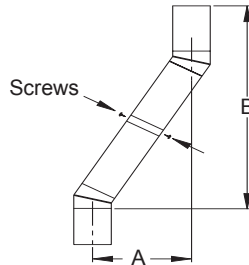

Figure 13 - Elbow Offset
- All pipe connections between offset and return must be secured with two screws on the outer pipe only (see Figure 13). Do not penetrate inner stainless.